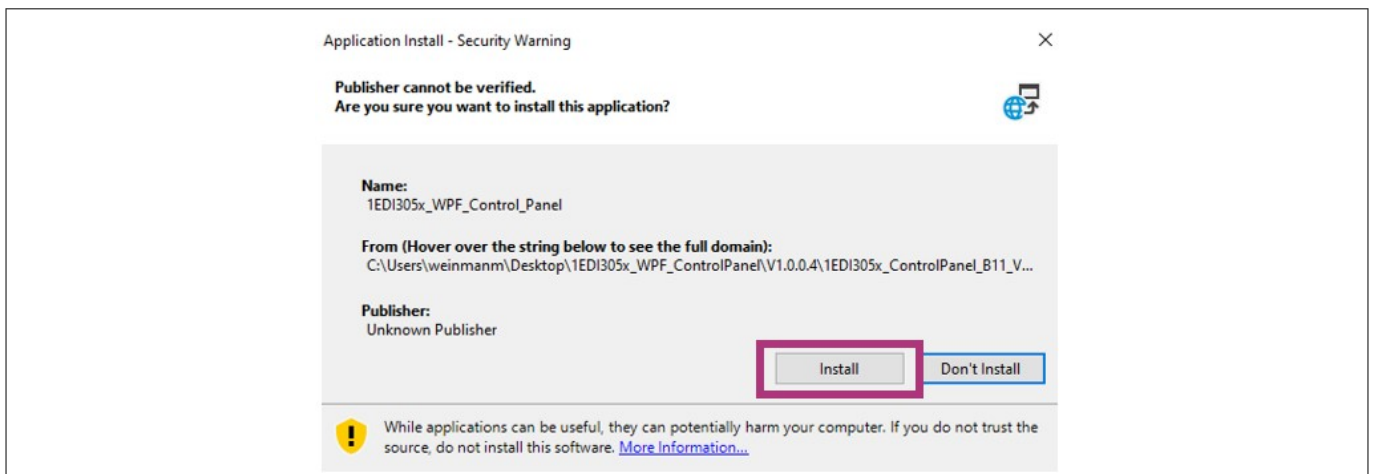

Figure 22 .NET Framework 4.8 download instruction – application installation
- 4. Click “Install”. See Figure 22